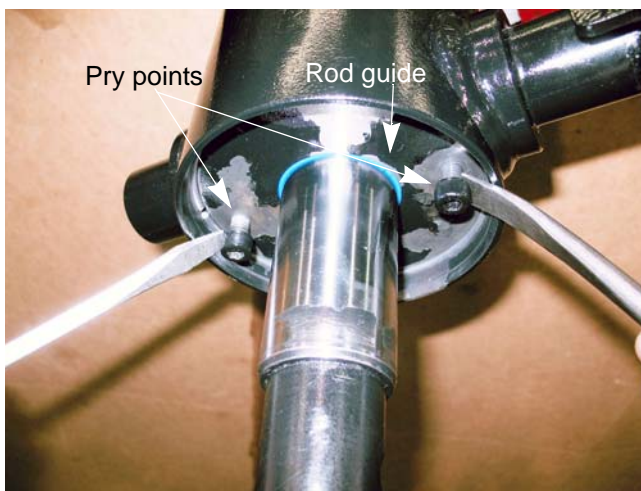

Figure 5.21
47. Pull the shaft and piston up to the top of the bore, so that the piston moves the rod guide back into place against the snap ring. See Figure 5.21.